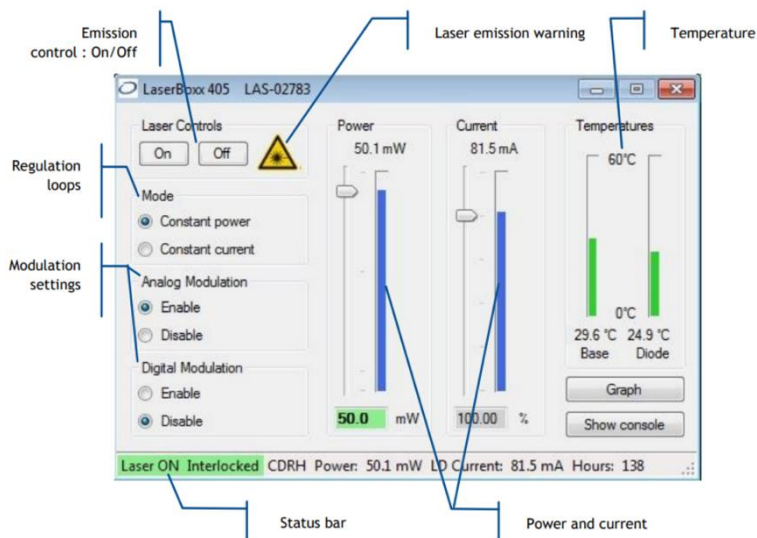

Figure 38. Laser box interface
5. Set up the necessary parameters like laser power and current level (*Figure 38*).
22. Set the power of the laser to a desirable level for measurements using laser operation software Oxxius Lasers (Figure 38). Then click on the box next to "Confirm the setting of the laser intensity" (Validez le réglage de l'intensité du laser). The laser power in our testing (chicken samples) was set to 250 mW.